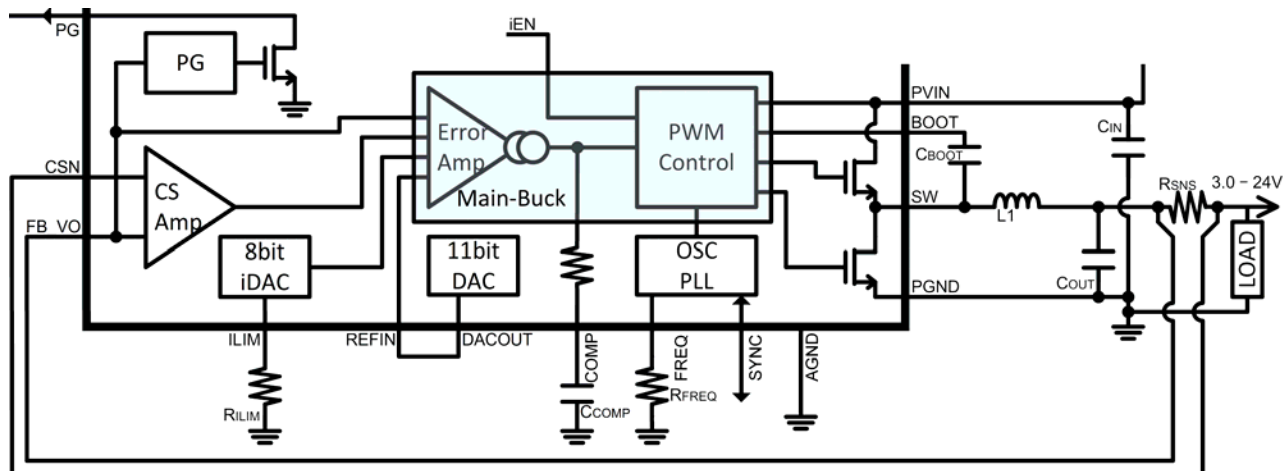

Figure 58. Main-buck Regulator
A compensation network is required between the COMP pin and the ground. See Figure 58 and Main-buck Compensation Network.
The ACT41000 provides a current sense (CS) amplifier to monitor its output current,  $I_{OUT}$ , precisely for the Programmable Current Limit and Over-Current Protection blocks. This CS amp uses the FB\_VO pin and the CSN pin (current sense negative) as its differential inputs and generates a device internal signal,  $V_{CS}$  with a gain of 20, by following the Eq.\(10\). As shown in Figure 58, the FB\_VO and the CSN pins are monitoring an external current sense resistor  $R_{CS}$ .